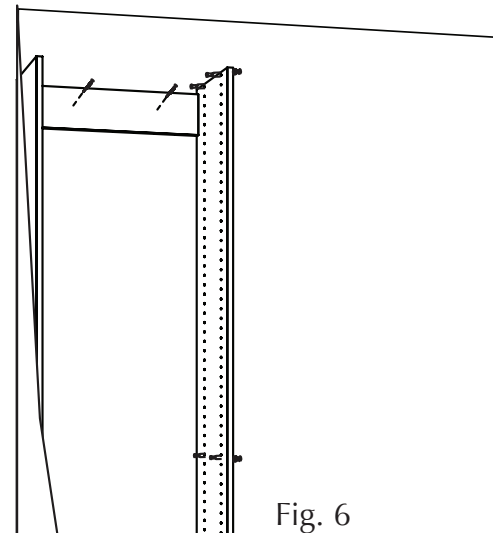

Fig. 6
6. Fasten the cleat to the closet's wall with two appropriate wall screws. (See "Working with Different Wall Types" section and Fig. 6.)